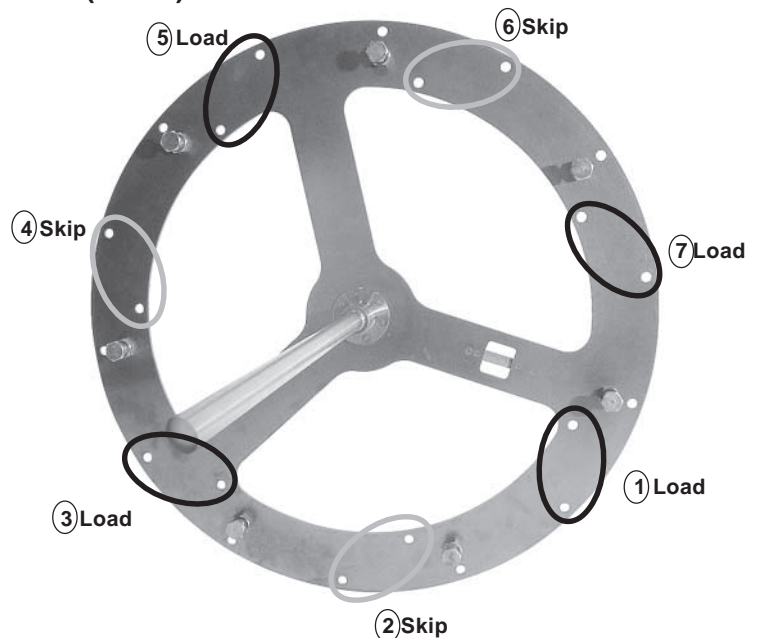

Fig. 17
- Using , load accessory into position 1, skip position 2, load position 3, etc. (Fig. 17).